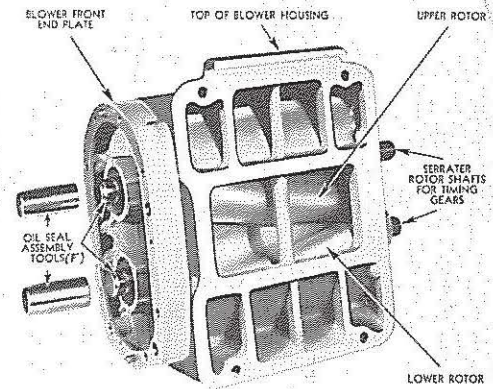

FIG. 12
4. Assembling rotors into housing. With this in mind, as outlined in item (3).
- a. Install one oil seal pilot (F) over short end (non-splined) of each rotor shaft and with rotors in mesh and omitted serrations toward top of blower housing, slip rotors into housing. (See Fig. 12).